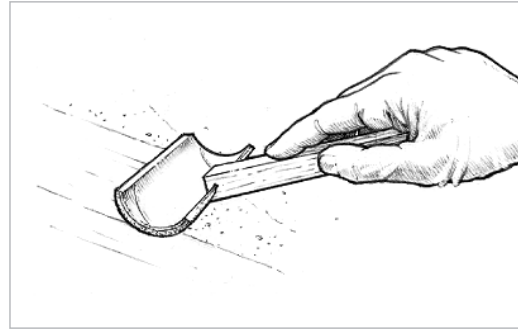

Figure 5-24 Tip off the fresh coat of epoxy with the grain, using a foam roller brush to remove bubbles and roller marks.
8. Drag a foam roller brush lightly over the fresh epoxy in long, even, overlapping strokes after each full batch is applied. Use enough pressure to smooth the stipple, but not enough to remove any of the coating (*Figure 5-24*). Alternate the direction in which each coat is tipped off, 1st coat vertical, 2nd coat horizontal, 3rd coat vertical, etc. A WEST SYSTEM 800 Roller Cover can be cut into segments to make a tipping bush.